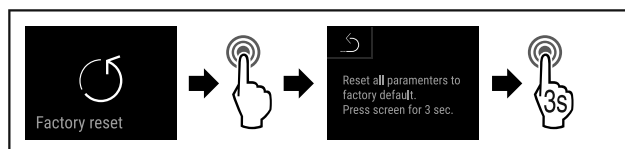

Fig. 163
- ▶ Complete steps (see Fig. 163) .